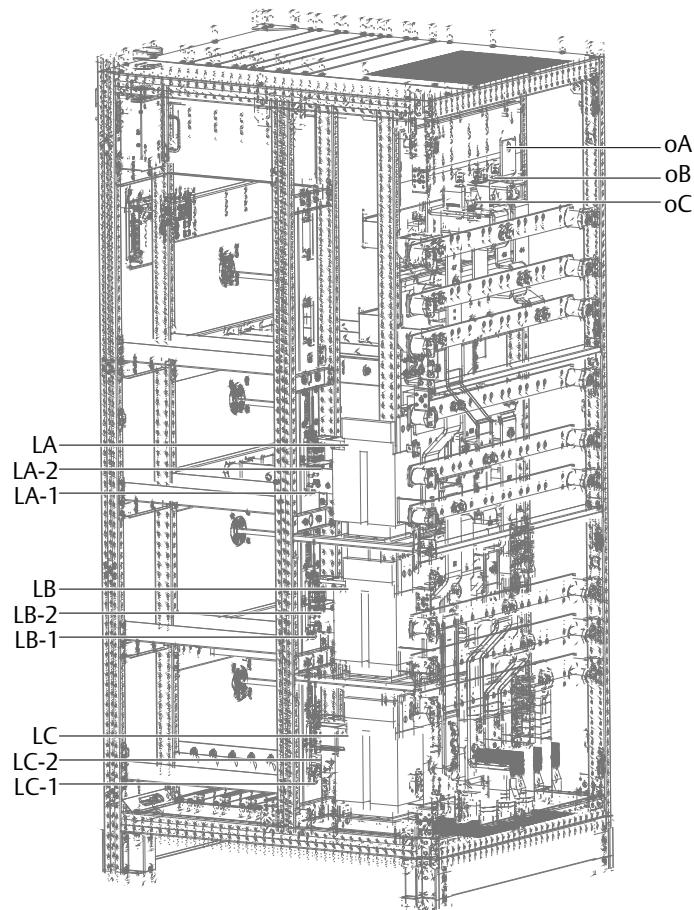

Figure 8-1 *Installing bypass load sharing inductors*
6. Place the three inductors to the installation positions LA, LB and LC, and use three hexagon sems screw M12 × 30 to connect the power cables between LA-1, LB-1, LC-1 and one end of the bA/L1-B (A), bA/L1-B (B), bA/L1-B (C), as shown in Figure 8-1.
7. Use the six hexagon sems screw M12 × 30 and w07 (bA), W08 (bB), W09 (bC) to connect the terminals between LA-2, LB-2, LC-2 and bypass power module, as shown in Figure 8-1.